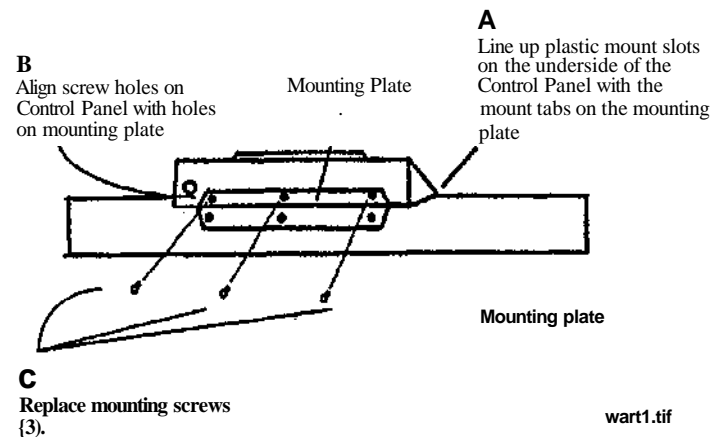

Figure 4 Replacement of the Control Panel upon the 7356 scanner
3. (Figure 4): Replace the Control Panel upon the 7356 scanner.